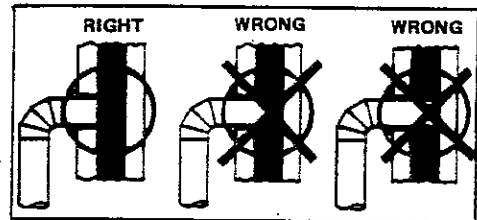

FIG. 10
If there is no chimney near where you wish to place the heater, you can use a UL Listed Residential Solid Fuel Factory-Built Chimney (Fig. 10).
4. The pipe cannot extend into the chimney flue (Fig. 10).